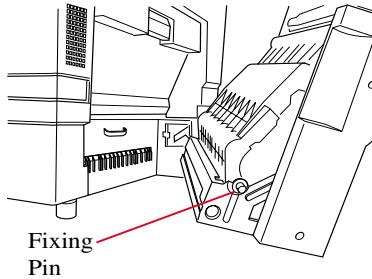
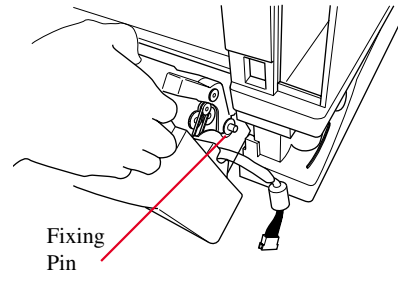

Fig. 3-43
Fig. 3-44
2. Insert the fixing pins into the sockets of the LFU (see Fig. 3-43 and Fig. 3-44).
3. Attach the hooks (located on each side of the DPU) to the holes of the printer. Install the duplexer (see Fig. 3-44).